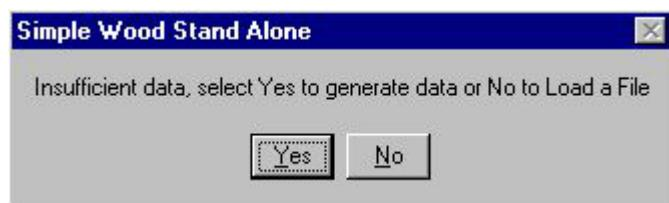

Figure 3.25. Insufficient Data Warning
2. If there is insufficient data for the Structural Response Model to run, the user will be prompted (Figure 3.25) to either generate temperatures or to load a temperature file.